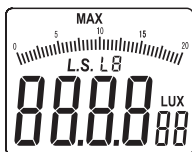

Figure 4
- Press and hold "MAX/MIN" key for a short time, "MAX" will appear on top LCD interface (as shown in figure 4).